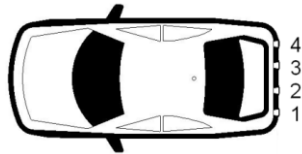

Fig.2 - Definition of Sensor's Serial Numbers
Note: Sensors must be installed in order of serial number. If not, the diagnostic function may reference the wrong sensor. See Fig.2.
Note: Sensors and trunk harness connectors are serialized and must be connected in position and order as shown in Fig.2; otherwise the diagnostic function will reference the wrong sensor.
- Insert the sensor cables into the holes made in bumper according to serial number. Refer to Fig.2